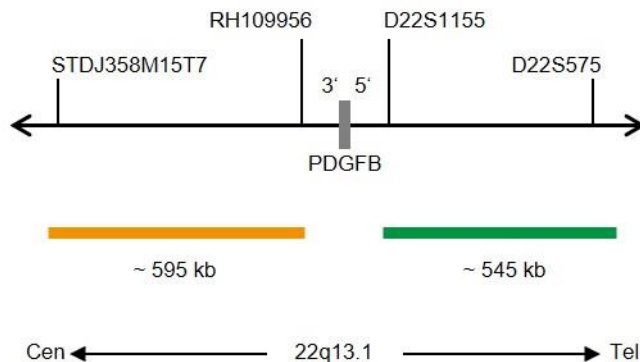

Fig. 1: SPEC PDGFB Probe map (not to scale)
- ZyGreen (excitation 503 nm/emission 528 nm) labeled polynucleotides (~10.0 ng/ μ l), which target sequences mapping in 22q13.1* (chr22:39,720,415-40,267,687) distal to the PDGFB breakpoint region (see Fig. 1).
- ZyOrange (excitation 547 nm/emission 572 nm) labeled polynucleotides (~4.5 ng/ μ l), which target sequences mapping in 22q13.1* (chr22:38,928,973-39,526,228) proximal to the PDGFB breakpoint region (see Fig. 1).